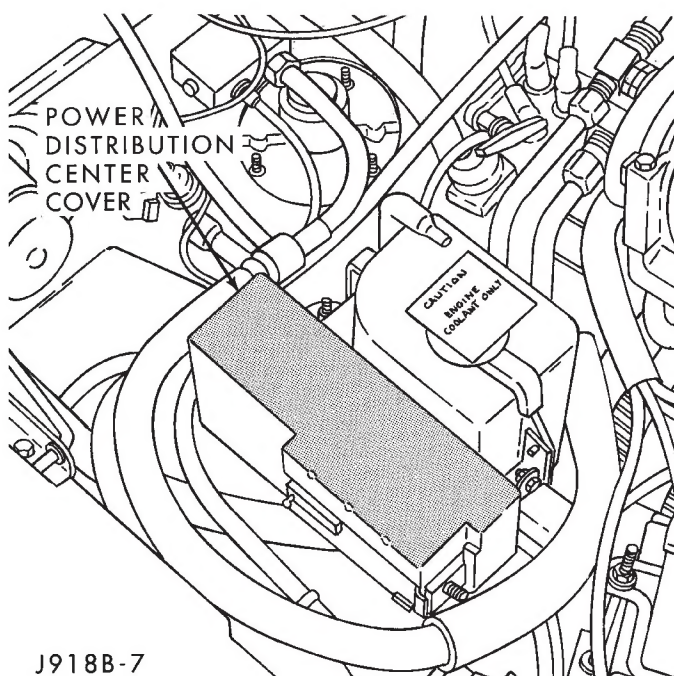

Fig. 15 Power Distribution Center—XJ
- (1) Disconnect battery negative cable.
- (2) Remove starter relay by unplugging unit from PDC (Fig. 15 or 16).